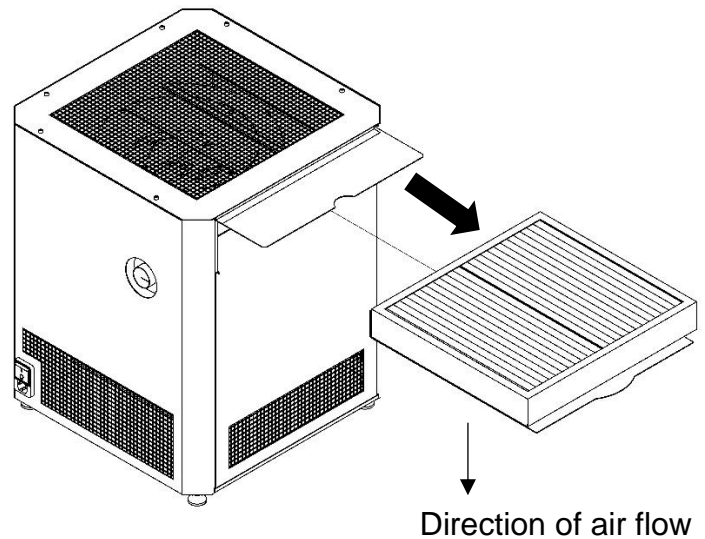

Figure 2
- 3.) Remove old air filter by sliding out removable filter tray. See Figure 2.